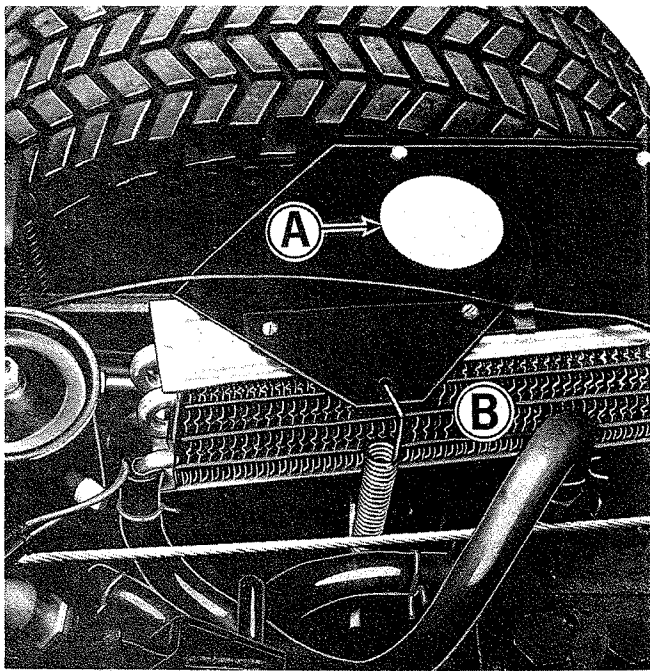

Figure 17. Transmission oil cooler, located under seat deck.
CLEAN TRANSMISSION OIL COOLER: See figure 17. Use a screw driver to remove plug (A). Inspect the oil cooler (B) and if necessary remove any dirt, chaff or oil, which may decrease the efficiency of the cooler. Dirt and chaff collected on the outside of the cooler can usually be brushed off after the engine has been stopped. Be careful not to bend the cooler fins. If grass, chaff, or dirt collect between the fins, it may be necessary to use air or water pressure to blow it out. A non-flammable solvent should be used to remove any oil which may collect on the outside of the cooler. In warm or dusty operating conditions, or when mowing dry grass, the cooler may need to be cleaned more often to prevent foreign material from restricting air flow through it.